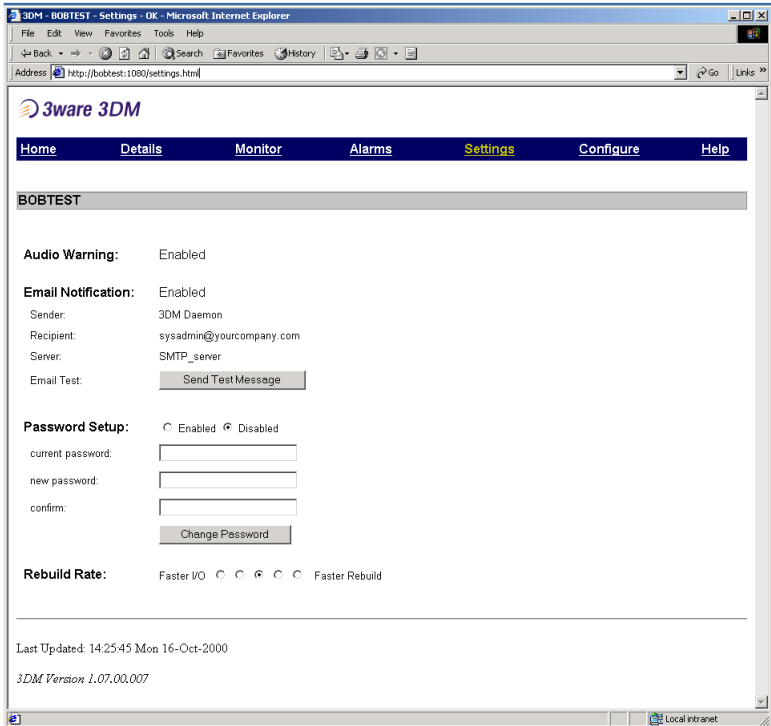

Figure 54. 3DM Settings Display
The **Settings** display (see Figure 54) allows you to configure 3DM for a faster Rebuild rate and password protection, as well as view the settings for the email notification and audio warning.
- 1 In 3DM, open the **Settings** display (see Figure 54).
3DM allows you to choose between a faster I/O rate or a faster Rebuild rate. Once the rate is selected, this function is only active during Rebuilds. Click on the desired rate in the **Rebuild Rate** portion of the **Settings** display (see Figure 54).